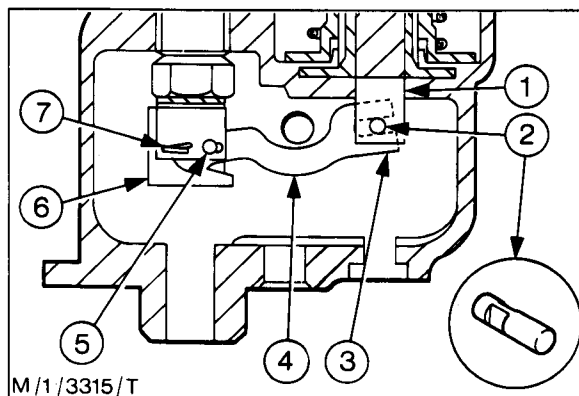

Fig. 58 - Camplate Installation
8. Apply specified anti-scuffing paste to the camplate bearing surfaces. Fit the heel section to the lever section ensuring that the longer part of the heel section is at the bottom when installed. Rotate the maximum fuel screw clevis 90° anti-clockwise. Insert the cam plate assembly curve downwards into the clevis. Rotate the clevis and align the camplate with the operating rod (Fig. 58).